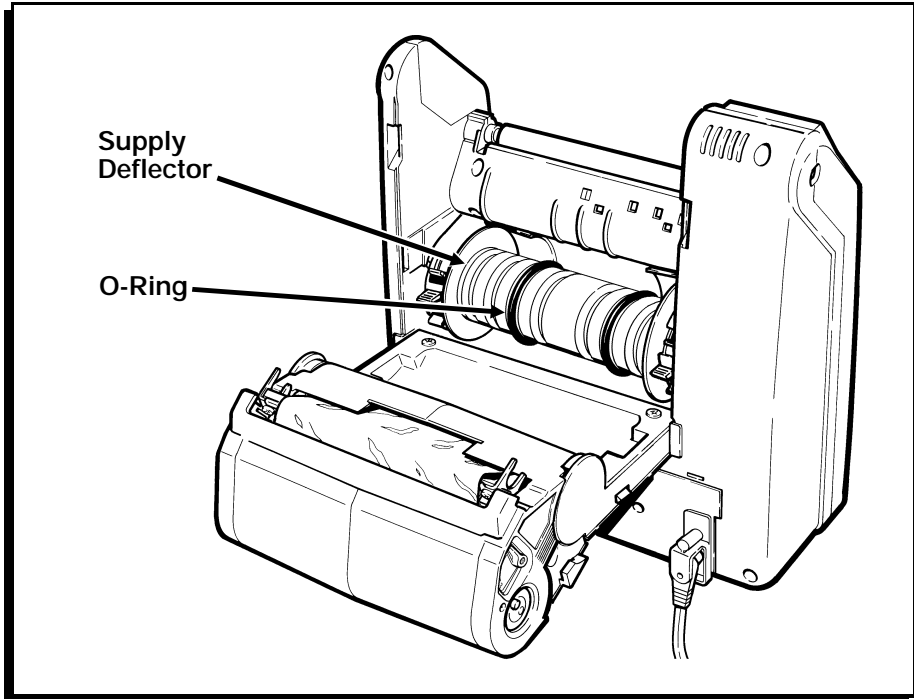

Figure 25
2. Center a strip of supply over the supply deflector. The supply deflector's rubber O-rings must be positioned inside the edges of the supply. (Figure 25.) If you do not need to adjust the position of the O-rings, skip to step 6.
3. Lift one end of the supply deflector to remove it from the supply well. You may have to gently spread the supply holders apart to release the supply deflector. (Figure 25.)
5. Replace the supply deflector in the supply well. (Figure 25.)